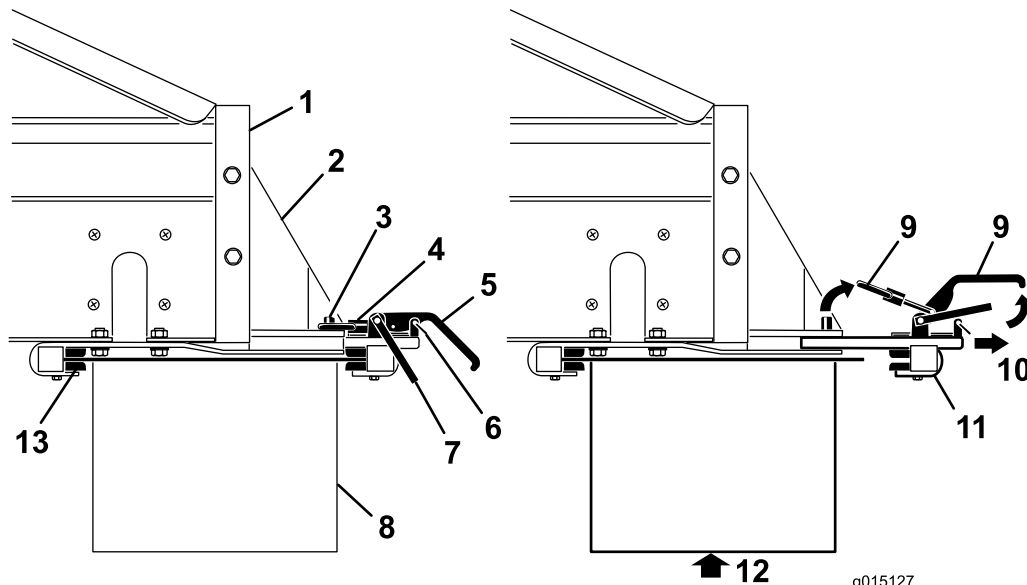

Figure 2
1. Remove the safety latch clips from the clamp handles (Figure 2).
2. Lift the safety latch, then lift the option attachment clamp handles, and release the lock rings from the lock pins (Figure 2).
3. Slide the rear option attachment clamp assembly out of the quick-attach slots (Figure 2).
4. With assistance, insert the front edge of the twin spinner up and under the rear of the MH-400 into the front clamps on the brackets (Figure 2).
5. While supporting the twin spinner, slide the rear option attachment clamp assembly back into the slots in the brackets, and over the rear edge (Figure 2).
7. Reinstall the safety latch clips to the clamp handles (Figure 2).